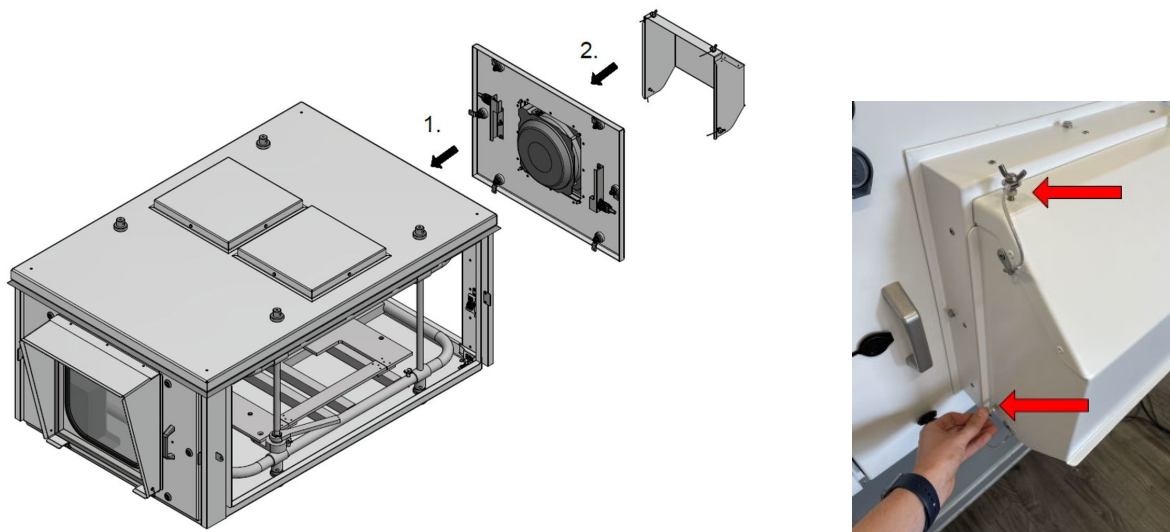

Figure 27: Installation of the rain cover on the Rear Panel.
-Finally, place the rain cover on and secure it with the four wing screws, which are secured by steel cables (see Figure 27)
- Finally, place the two rain covers and secure them with the respective four wing screws, each secured by steel cables (see Figure 27).